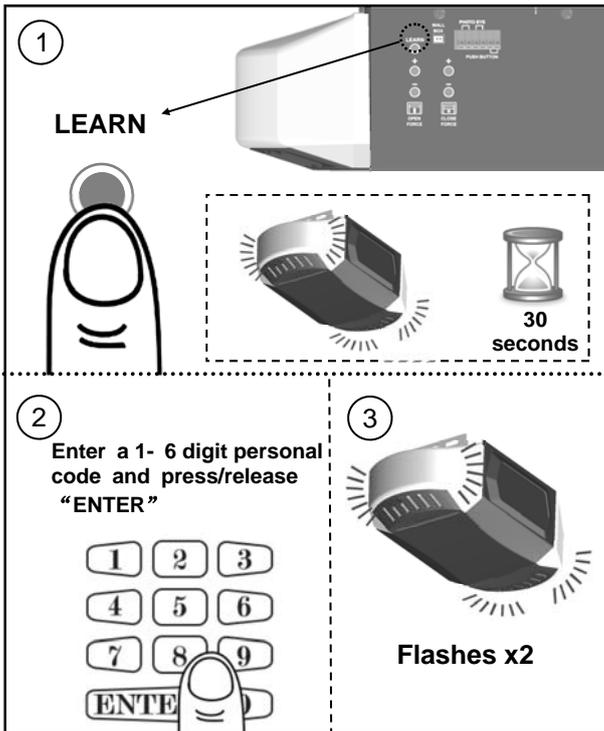

Fig.1
1. Press/release the "LEARN" button on the rear control panel of the Opener. The courtesy lights will illuminate with an audible click*. The unit is now ready to accept a transmitter in the next 30 seconds as shown in Fig.1.
1. Press and release the "LEARN" button on the rear of the unit, The overhead lights should come on or ,if on ,flash 1 time .as shown in Fig.1.